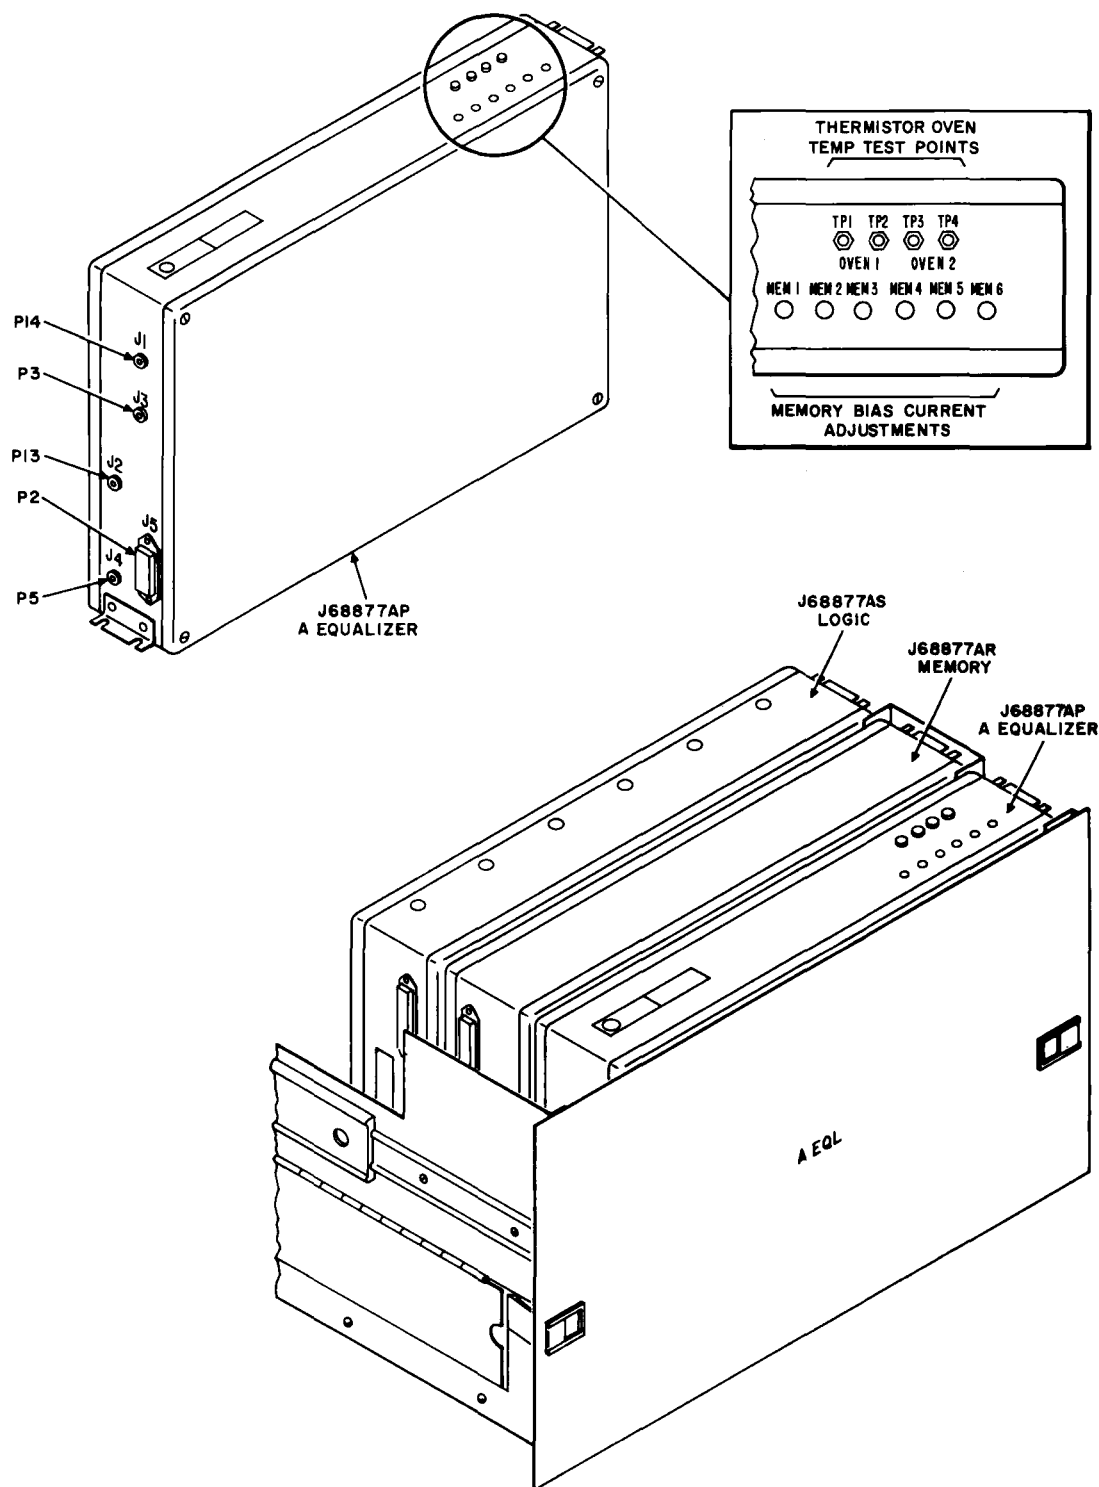

Fig. 8—A Equalizer J68877AP
A. Equalizer J68877AP (Fig. 8)
Note: Access to jacks J2, J4, and J5 is via a piano-hinged flap on the left side of the A equalizer shelf (Fig. 8).
- 7 Measure the resistance between test points TP1 and TP2 (OVEN 1) and between test points TP3 and TP4 (OVEN 2) shown in Fig. 8, using ◆a Western Reserve digital passive scaler.